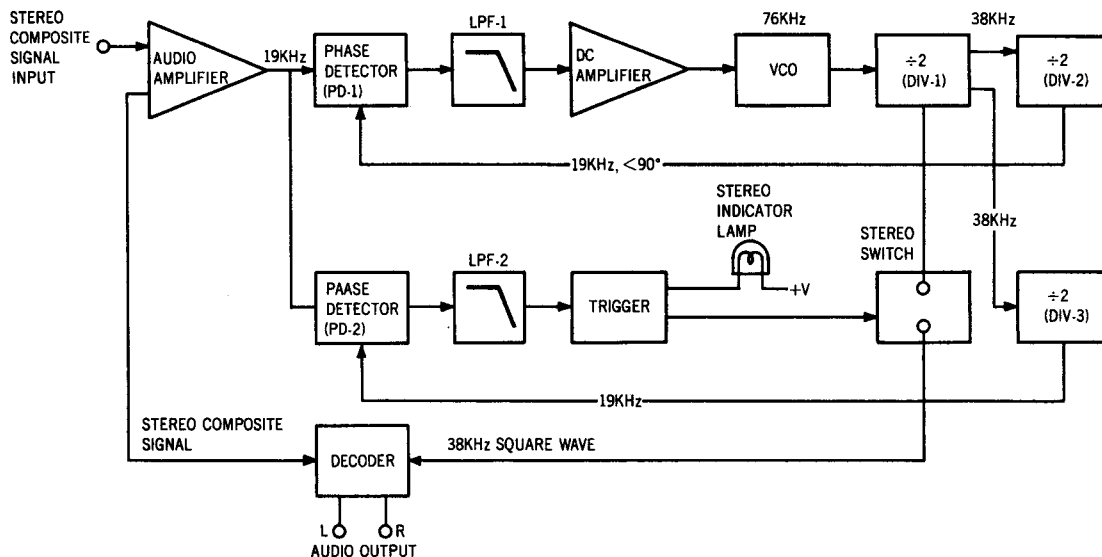

Figure 1. Block Diagram of the HA1156
ed of L301 to L304 and C311 to C320 for elimination of undesirable residual switching signal and through a de-emphasis network consisting of R325, R326, C321 and C322, into the npn-pnp direct coupled audio amplifier, where the signals are amplified to a required level for the output from J311 and J313. From these jacks, the audio signals are led to the TAPE OUTPUT jacks through the function switch. Figure 1 presents an internal block diagram showing the functions of the PLL basis MPX stereo decoding IC HA1156. The input stereo composite signal, amplified by the audio amplifier, is delivered to the phase detectors PD-1 and PD-2. A part of the stereo composite signal is also applied to the stereo decoder section. The VCO (Voltage Control Oscillator) produces a free run oscillation in the neighborhood of 76KHz with the time constant determined by a capacitor C305 and resistors R311 and R312 set on the outside of pin (14). The VCO output has its frequency divided into 19KHz through the two stages of the frequency divider (DIV-1 & DIV-2), and is reverted to the phase detector PD-1, which contains two input terminals designed to produce an output in proportion to the product of the two input signals. The signal applied to one of the inputs of PD-1 is the 19KHz square wave formed through frequency division of the 76KHz VCO output signal by the two stages of the frequency divider DIV-1 and DIV-2, and the 19KHz pilot signal included in the stereo composite signal as a reference signal is applied to the other input. Therefore, the output of PD-1 which has passed through the low pass filter LPF-1 provides DC output voltage in proportion to the phase variance between the two inputs. This DC output voltage is amplified by the DC amplifier, and supplied to the 76KHz VCO as a control voltage. This means that the output frequency and phase of the VCO have been phase-locked to the input pilot signal. The 38KHz sub-carrier reproduced by PLL as stated above is delivered through the stereo switch to the stereo decoder section as a switching signal, thus driving the decoder section. One of the inputs of PD-2 is given the 19KHz resulting from the frequency division completed by DIV-1 and DIV-3, whereas the other input gets the 19KHz output contained in the composite signal, and the output is provided with a DC output in proportion to the amplitude of the pilot signal. This DC output is furnished through LPF-2 to the trigger amplifier which drives the stereo indicator lamp and stereo switch. Therefore, insufficient supply of the pilot signal results in failure to light the stereo indicator and to turn on the stereo switch located in the path of the 38KHz switching signal,